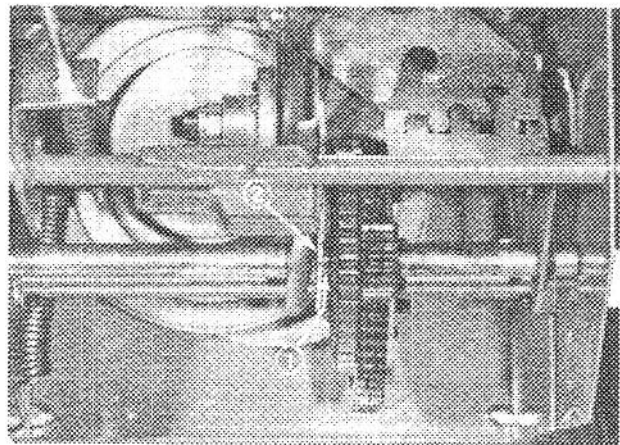

Figure 35
3. Shift speed selector to third gear and push down on speed selector plate to move drive assembly to the right. Drive assembly should contact roll pin; if not, push to the right to make a contact (Fig. 35).